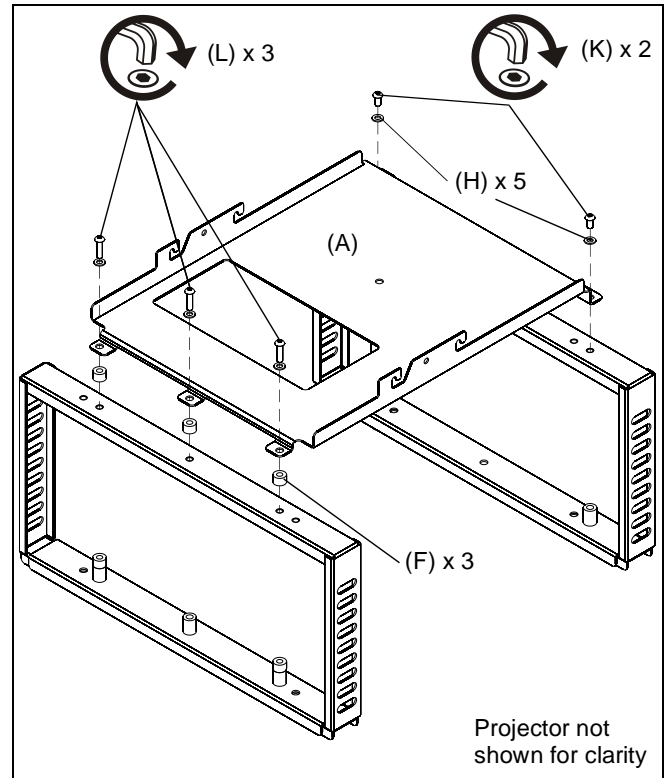

Figure 3
7. Attach HB bracket (A) to the bracket assemblies using five button head cap screws [(K) x 2, (L) x 3], five flat washers (H), and three spacers (F). (See Figure 3)